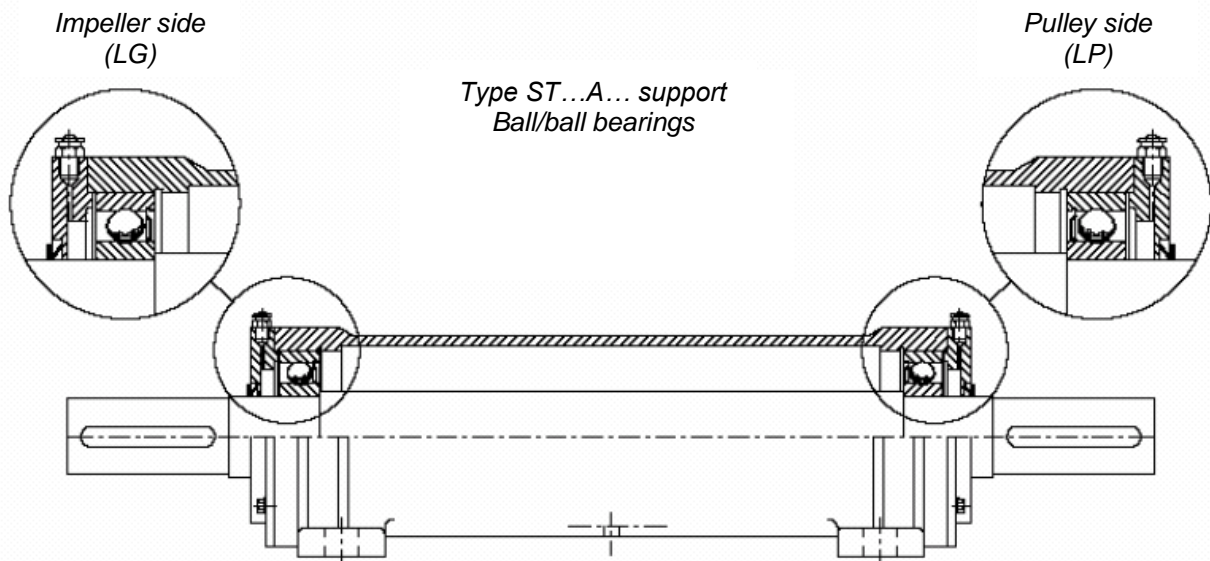

Fig. 10.6 ST...A... one-piece support with radial ball bearings both on impeller side and transmission side
- Type ST...A... support with rigid ball bearing on transmission side (Fig. 10.6).